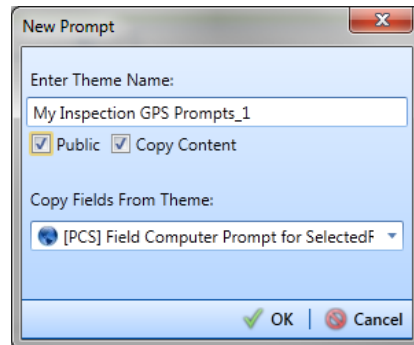

Figure 7-33. New Prompt
- 5 Click the  **Add** button to open the *New Prompt* dialog box (Figure 7-33).